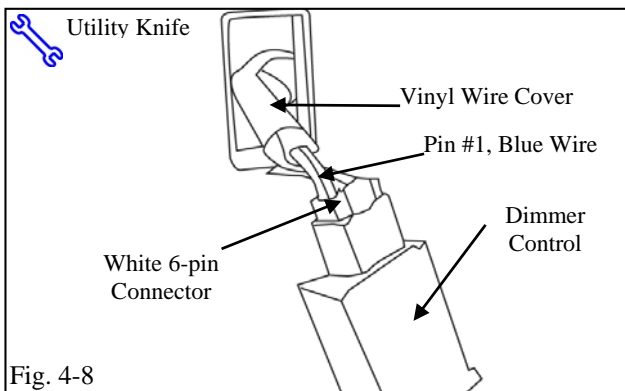

Fig. 4-8
(Fig. 4-8)
(k) Locate the White 6-pin connector for the IP dimmer control. (Fig. 4-8)
(1) Locate pin #1, Blue wire in the 6-pin connector. (Fig. 4-8)
(2) Carefully cut vinyl wire cover to expose wires about 1 ½ inches back from connector. (Fig. 4-8)